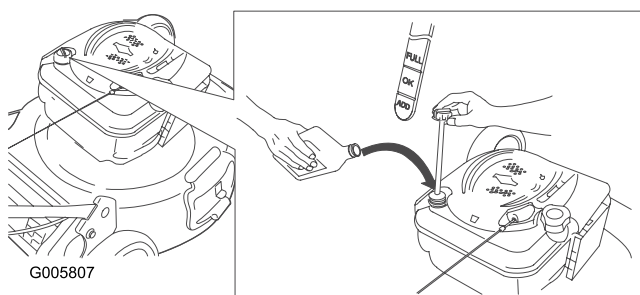

Figura 6
1. Retire la varilla (Figura 6).